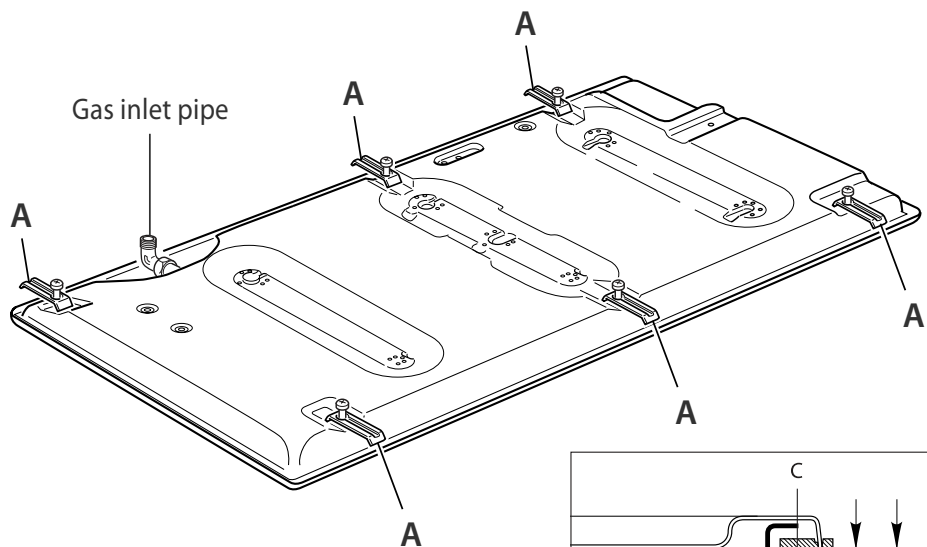

Fig. 4 Fastening the installation brackets and the cooktop
Fastening the installation brackets (Fig. 4)
- Turn the cooktop upside down, place it on a soft surface and fasten the brackets "A" to the appropriate socket holes, without tightening the screws "B" for the moment (see Fig. 4).
Fastening the cooktop (Fig. 4)